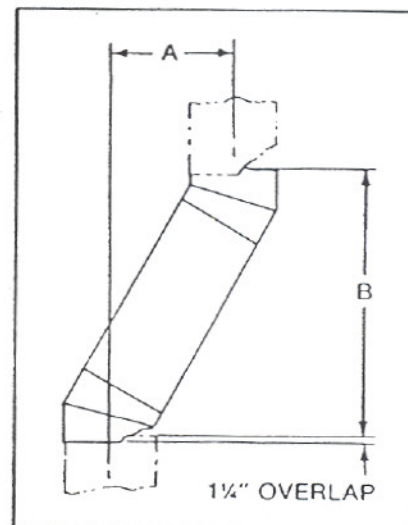

Figure 14
Figure 14 and Table 3 enable selection of the appropriate chimney components when using Offsets and Returns.
1. Determine amount of offset required to extend the chimney through a wall or around an obstacle. See Figure 14, dimension "A".